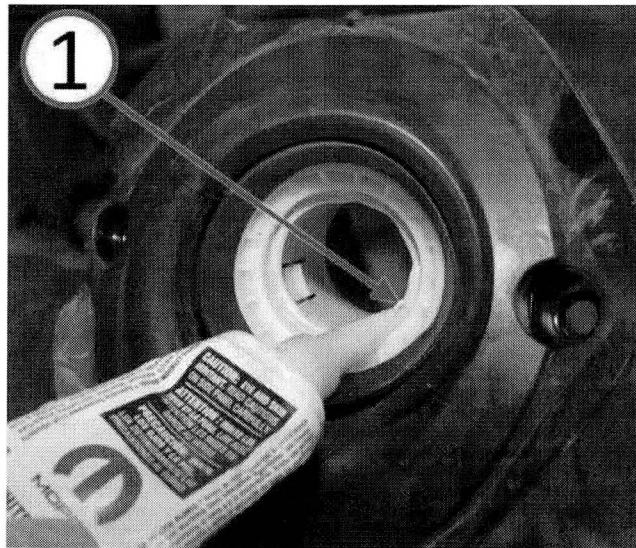

Fig. 7 Apply White Lithium To Outer Bearing Sleeve
7. Apply white lithium grease to the contact surface at each end of the outer bearing sleeve (Fig. 7).